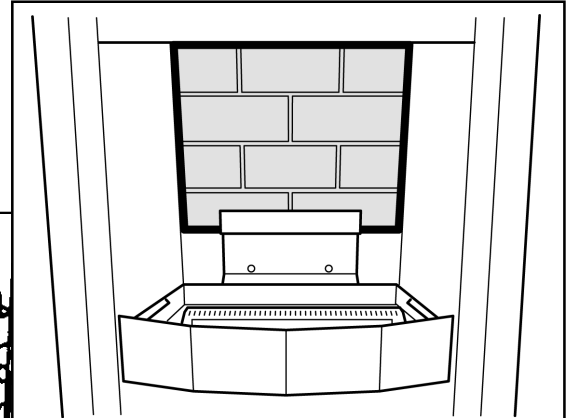

Figure 9 Ceramic Rear Wall Position
1. Fit the ceramic rear wall into the bracket at the back of the firebox .See figure 9.